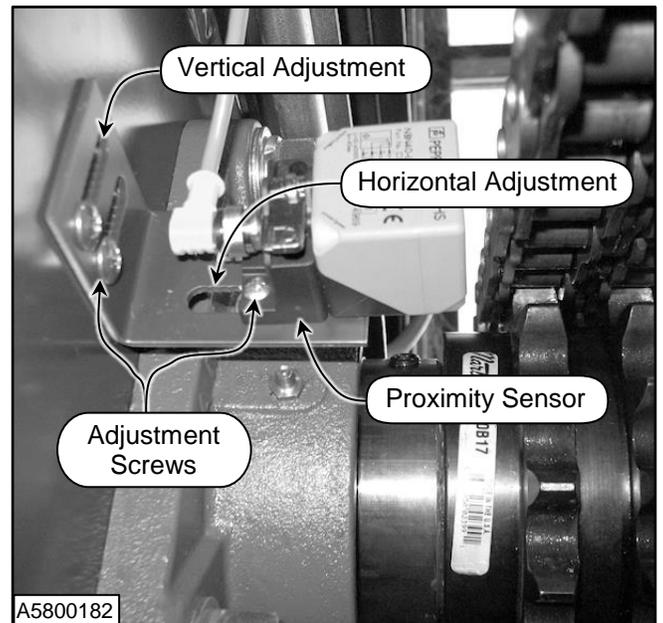

Figure 33
3. Adjust the proximity sensor to an operating distance 0.62–0.78 in. (16–20 mm). This would be a horizontal adjustment. (See Figure 33)